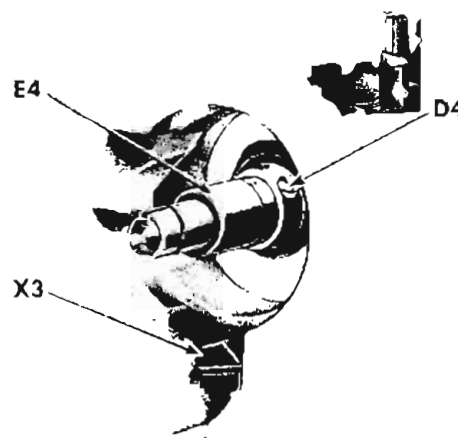

Fig. 34. Arm Shaft Counterbalance
4. Remove large hinge screw X3, Fig. 34, page 18, with its spring and washer from arm casting.
2. Replace large hinge screw X3, Fig. 34 with its washer and spring, through arm casting and into regulator.
4. Remove screw D4 and counterbalance E4, Fig. 34 from arm shaft.
4. Replace counterbalance E4, Fig. 34.
5. Insert screw D4 through counterbalance E4, and into hole provided for it on arm shaft, as shown in Fig. 34.